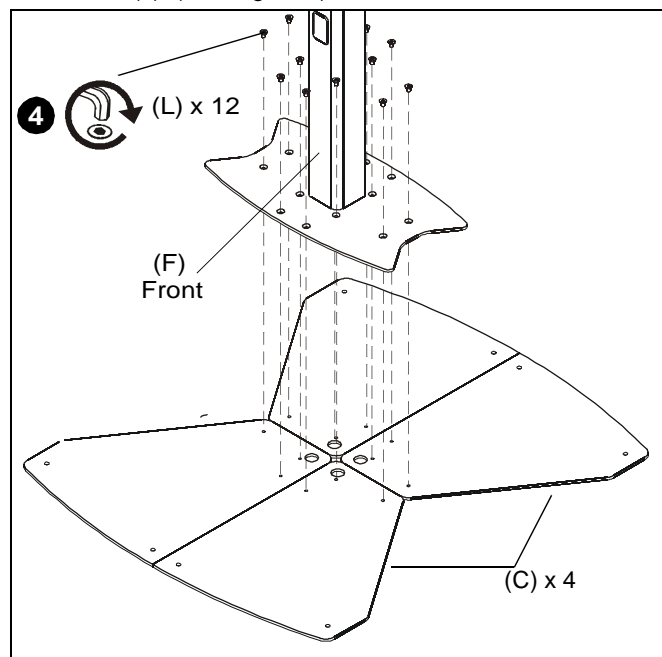

Figure 6
3. Place top base section and center post assembly on top of the four base pieces. (See Figure 6)
4. Fasten lower base pieces to top base section and center post assembly using twelve 5/16-18 x 1/2" flat head cap screws (L). (See Figure 6)